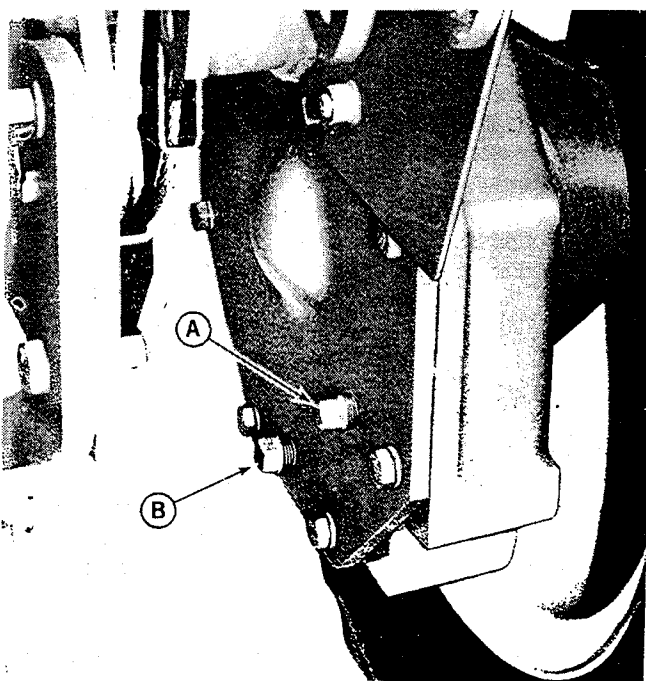

Figure 29. Drop housing drain and fill plugs.
**CHECK DROP HOUSING OIL LEVEL:** See figure 29. Remove the oil level plug (A) from each of the two drop housings to check the oil level. The oil should be even with the lower threads in the plug hole. If oil must be added to bring the oil level up to the threads, add SAE 90 transmission grease through the check plug hole. If it should be necessary to drain the drop housings the drain plug (B) may be removed.